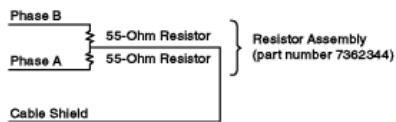

Figure 47. Terminating a Cable
5. When checking shield continuity, you should connect the remote end of the cable to a workstation, or you should terminate it as shown in Figure 47.